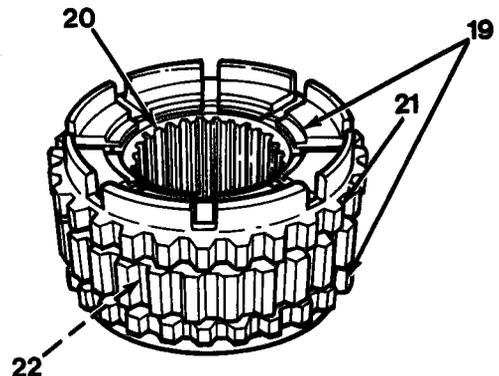

Figure 11-6
9. Remove two clutch retainers (19), inner clutch race (20), outer clutch race (21) and sprag clutch assembly (22) as an assembly from stator (23).
10. Remove two clutch retainers (19), inner clutch race (20) and outer clutch race (21) from sprag clutch assembly (22, Figure 11-6).